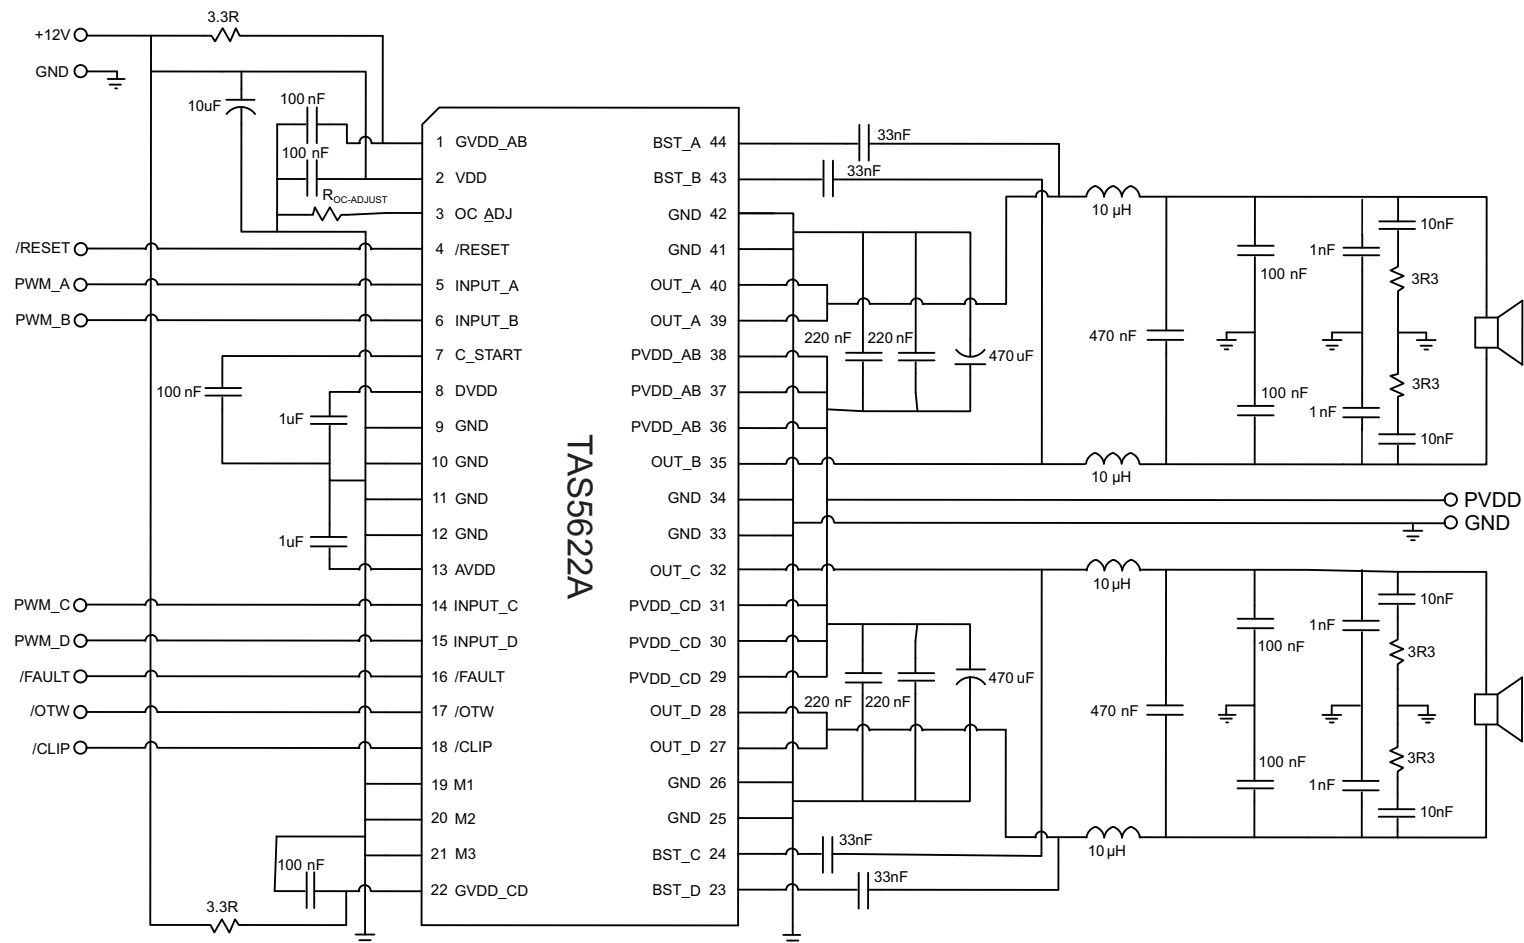

Figure 16. Typical Differential (2N) BTL Application With AD Modulation Filters
See Figure 16 for application schematic. In this application, differential PWM inputs are used with AD modulation from the PWM modulator (that is, TAS5558). AD modulation scheme is defined as PWM(+) is opposite polarity from PWM(-).
- Pins 27, 28, 32, 35, 39, 40 - Output pins from half-bridges A, B, C, and D. Connect appropriate bootstrap capacitors and differential LC filter as shown in Figure 16.
- Pins 29, 30, 31, 36, 37, 38 - Power supply pins to half-bridges A, B, C, and D. A and B form a full-bridge and C and D form another full-bridge. A 470-μF bulk capacitor is recommended for each full-bridge power pins. Two 0.22-μF decoupling capacitors are placed on each full-bridge power pins. See Figure 16 for details.